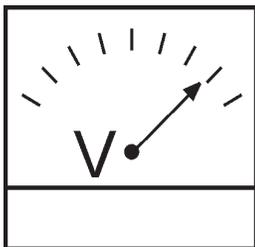
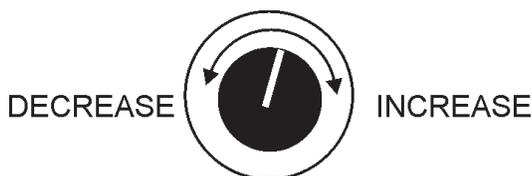

Figure 32. Voltmeter
Figure 33. Voltage Adjust Control Knob
- The generator's AC-voltmeter (Figure 32) will display the generator's output in **VOLTS**. If the voltage is not within the specified tolerance, use the voltage adjustment control knob (Figure 33) to increase or decrease the desired voltage.